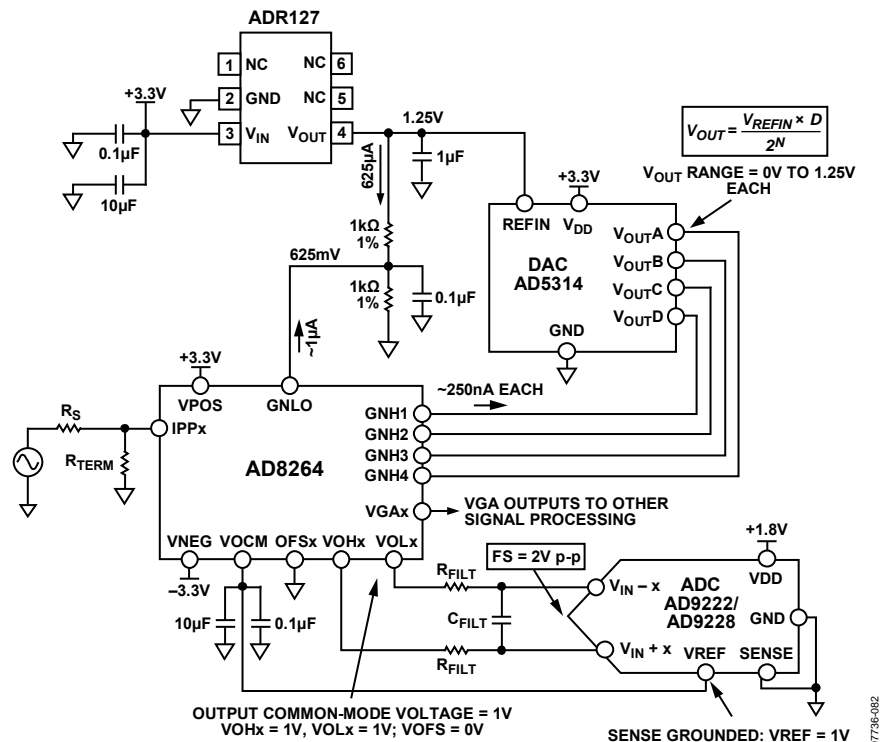
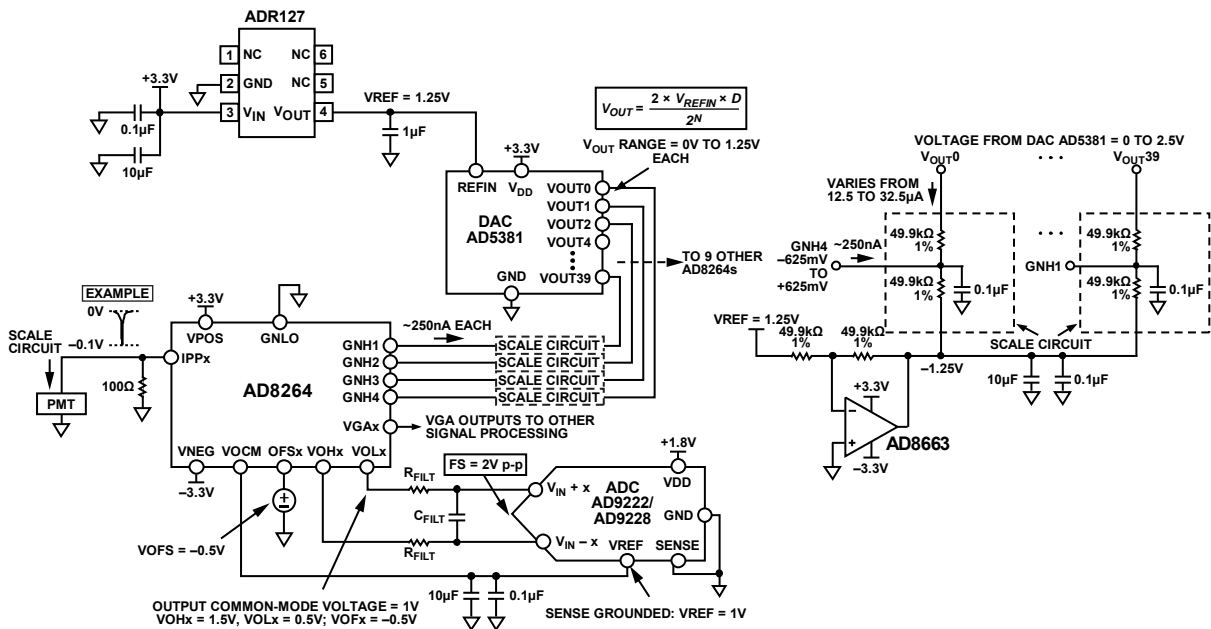

Figure 112. Application Concept of the **AD8264** with the **AD5314** 10-Bit DAC and the **AD9222/AD9228** 12-Bit ADC
Figure 113. Concept Application of AD8264 with 40-Channel AD5381 12-Bit, 3 V DAC and AD9222/AD9228 12-Bit ADC
The **AD8264** is particularly well suited for use in the analog front end of medical PET imaging systems. Figure 112 shows how to use the **AD8264** with the **AD5314** (a 4-channel, 10-bit DAC) and the **AD9222/AD9228** (an octal or quad, 12-bit ADC, respectively). The DAC sets the gain of the **AD8264**. Note that the full gain span of 24 dB is achieved with this setup because the gain control input range of the **AD8264** is very close to 1.25 V. The GNLO pin must offset by $1.25/2 = 625$ mV because the gain control input is bipolar around the voltage applied at GNLO. This is done with two 1 kΩ, 1% resistors. The approximately 1 μA of bias current flowing from the GNLO pin does not contribute a significant error because the basic gain error of the **AD8264** is the limiting factor.
Figure 112 also includes the DAC output equation, which indicates that the output can vary between 0 V and $V_{REF} = 1.25$ V.
The single-ended-to-differential amplifier of the **AD8264** amplifies the VGA output signal by 6 dB and can provide the required dc bias of the **AD9222/AD9228**, as shown in Figure 112. The ADC is connected with the default internal reference because the SENSE pin is grounded. With this connection, the **AD9222/AD9228** VREF pin is an output that provides 1 V; this is then connected to the VOVM input of the **AD8264**, which sets the output common-mode voltage of the VOHx and VOLx pins to 1 V. This voltage is very close to the recommended optimal value of $V_{DD}/2 = 0.9$ V. With this configuration, the ADC inputs are set to a full-scale (FS) of 2 V p-p.
The dc connected concept example in Figure 113 is an application with the 40-channel AD5381, 3 V, 12-bit DAC. The main difference between this example and Figure 112 is that, for the same ADR127 1.25 V reference, the full-scale output of the DAC is from 0 V to $2 \times V_{REFIN} = 2.5$ V. Two options for gain control include the following:
- Use the same circuit as in Figure 112 but use only half the DAC output voltage from 0 V to 1.25 V. This is the simplest solution, requiring the fewest extra components. Note that the overall gain resolution increases by one bit to 11 bits over the 10-bit AD5314.
- Ground GNLO and scale the DAC output so that the GNHx inputs vary from -0.652 V to $+0.625$ V. Figure 113 shows a possible circuit implementation using a divider between the DAC output and a -1.25 V reference.
Figure 113 shows how the AD8264 is connected in a PET application. The PMT generates a negative-going current pulse that results in a voltage pulse at the preamplifier input and a differential output pulse on VOLx and VOHx.
A convenient method of verifying and customizing the signal chains shown in Figure 112 and Figure 113 is by ordering the corresponding evaluation boards available on www.analog.com. The AD8264-EVALZ is a platform through which the user can quickly become familiar with the features and performance capabilities of the AD8264. See the Evaluation Board section for more information.